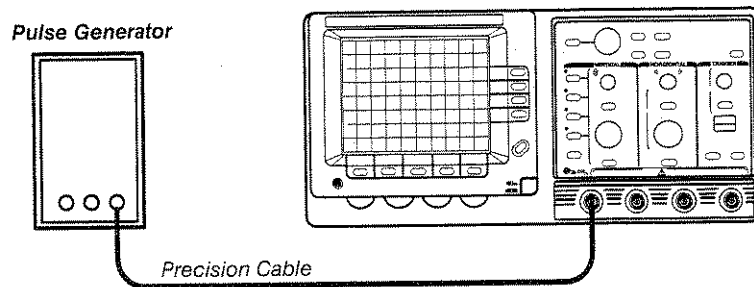

Figure 6-9: X-Axis Gain Test Setup
2. Connect the output of the pulse generator to the **CH 1** input as shown in Figure 6-9.